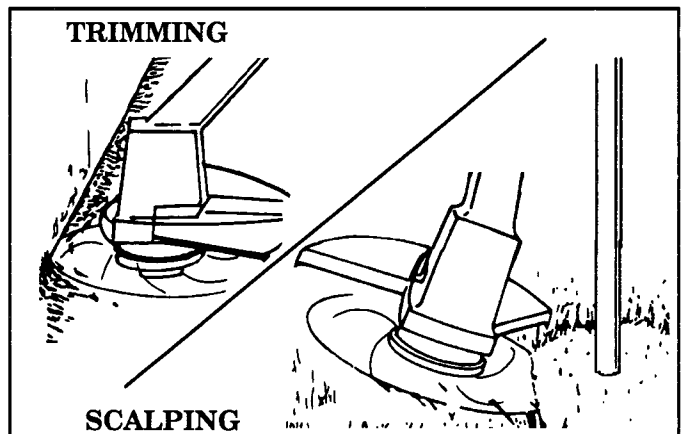

Figure 13
1. **TRIMMING** – Figure 13. Hold bottom of trimmer head about 3 inches above ground and at an angle. Allow only the tip of line to make contact. Do not force trimmer line into the work area.
2. **SCALPING** – Figure 13. The scalping technique removes unwanted vegetation. Hold the bottom of the trimmer head about 3 inches above the ground and at an angle. Allow the tip of the line to strike ground around trees, posts, monuments, etc. *This technique increases line wear.*